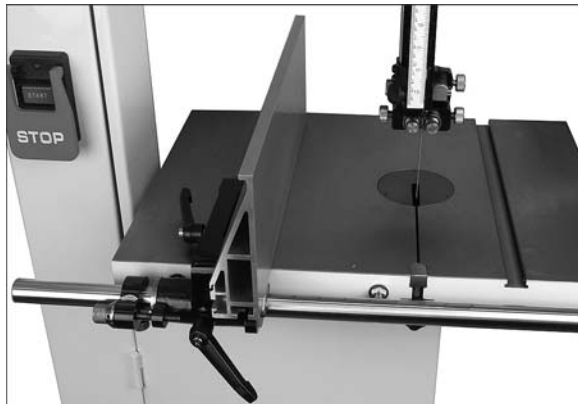
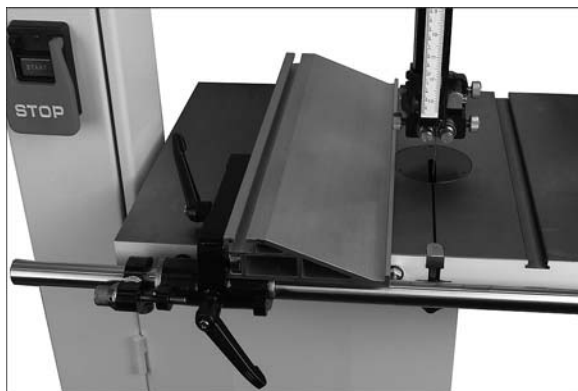

Figure 7 – vertical position
Figure 8 – horizontal position
Refer to Figures 7 and 8.
Loosen lock bar (A) with handle (B). Pull out on lock bar until it protrudes enough on which to slide the aluminum fence plate from one end, as shown in Figure 7. Retighten knobs.
The aluminum fence plate can be installed in one of two positions; vertically (resaw position), as shown in Figure 7; or horizontally as shown in Figure 8.